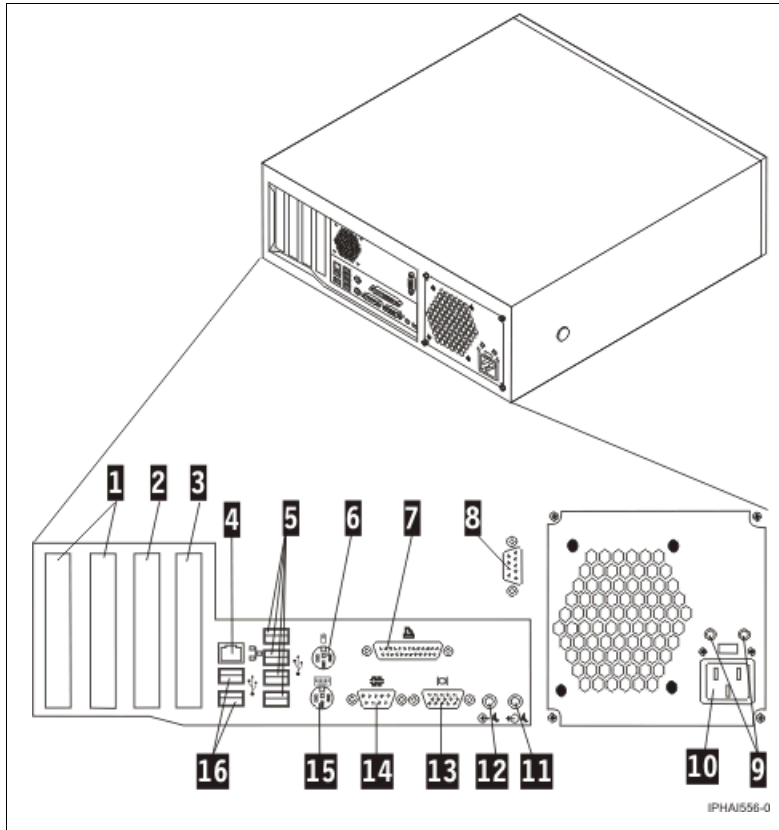

Figure 3-6 Back view of a stand-alone HMC 7310-C04
- A stand-alone HMC 7310-C04 (Figure 3-6 on page 75 and Table 3-1 on page 75)